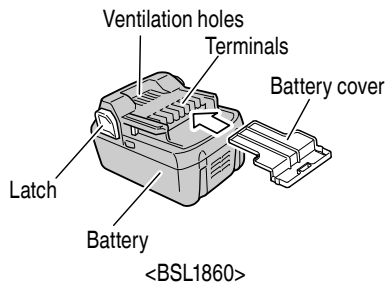

Fig. 3
- **Either install the battery in the power tool or store by securely pressing into the battery cover until the ventilation holes are concealed to prevent short-circuits (See Fig. 3).**